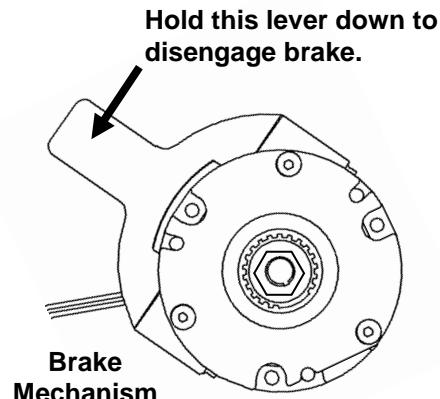

Figure 4.2-29
1. Disengage the brake (see Figure 4.2-29) and manually crank the Sweep to the highest point of its travel.